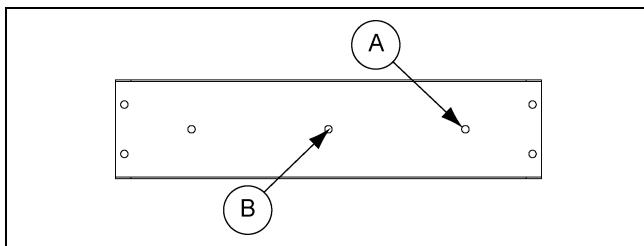

Figure 1 Centrifugal Shutter Top
1. Locate the mounting hole (A) for the handle bracket on the shutter frame top.
Centrifugal Shutters: Remove the rivet used to plug the hole (B). (See Figure 1.)
- Centrifugal Shutters:** Remove the rivet used to plug the hole (B). (See Figure 1.)